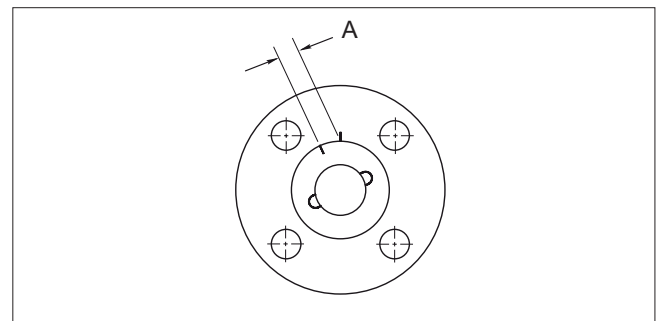

Figure 9. Insert Orientation
- Insert the body seal (6) and gently press it into the groove in the body.
- After applying a lubricant compatible with the media to the insert threads, screw the insert (2) into the body and tighten to the required torque shown in (Table 2). If a torque-wrench is not available, tighten the insert the same number of turns as in Step 4 until the marks match the "A" dimension shown in (Table 2) and illustrated in (Figure 9).